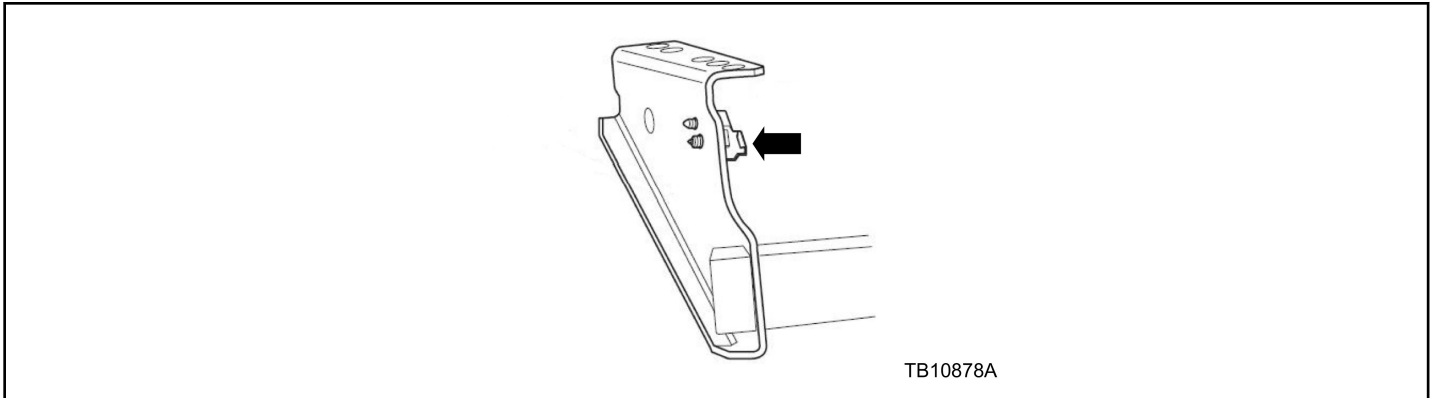

Figure 2 - Article 16-0087
3. Remove the wiring connector on the driver side of the trailer hitch. (Figure 2)